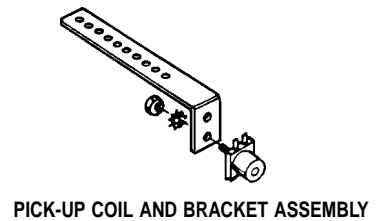

Figure 5
Step 9: Assemble the speed sensor coil and bracket with nut and lock washer. Use of mounting bracket will be determined by the specific installation. Refer to Figures 5 or 10. In some cases installation may be easier if the bracket is bent or cut to a specific shape.